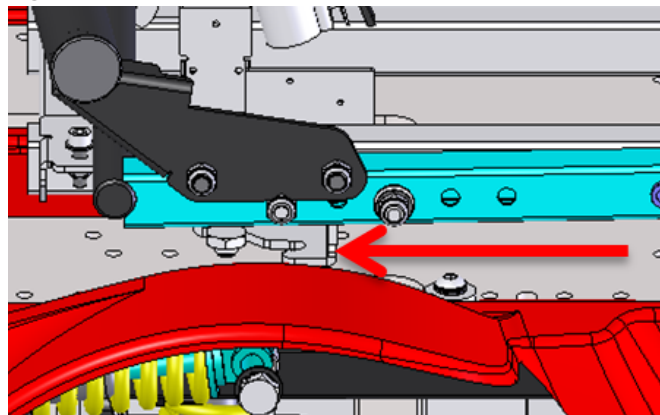

Figure 5-159
5.3.16.16 Push the seat backwards and ensure the fixing pins on the interface plate are properly seated in the slots under the seat frame. (Figure 5-159)